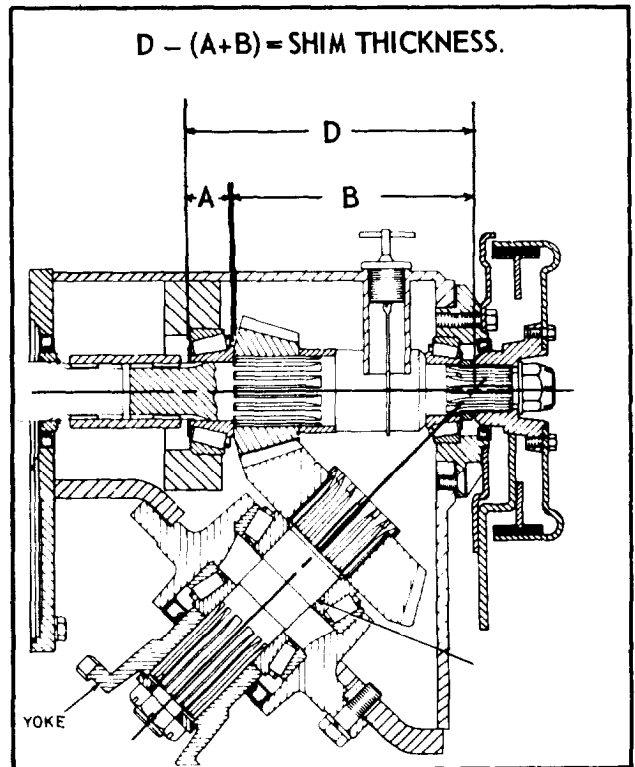

FIGURE 8-14.
**8-16. SHIM THICKNESS (see figure 8-14).**
(1). Take distance "D" from the housing mounting face to the imaginary intersection of the two shafts, which is stamped on the mounting face (see figures 8-14 and 8-15).